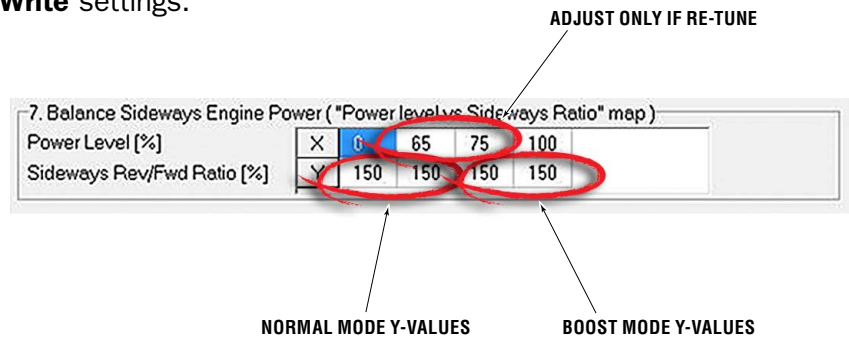

Figure B-13. Sideways REV/FWD Ratio Curve parameters.
If you adjusted the power levels in STEP 8 and are now performing a re-tune, adjust the X-values in the table as follows (see figure B-13):
- a) If the boat moves aft, decrease both *normal mode Y-values* (see figure B-13) by the same amount. If the boat moves forward, increase the values.